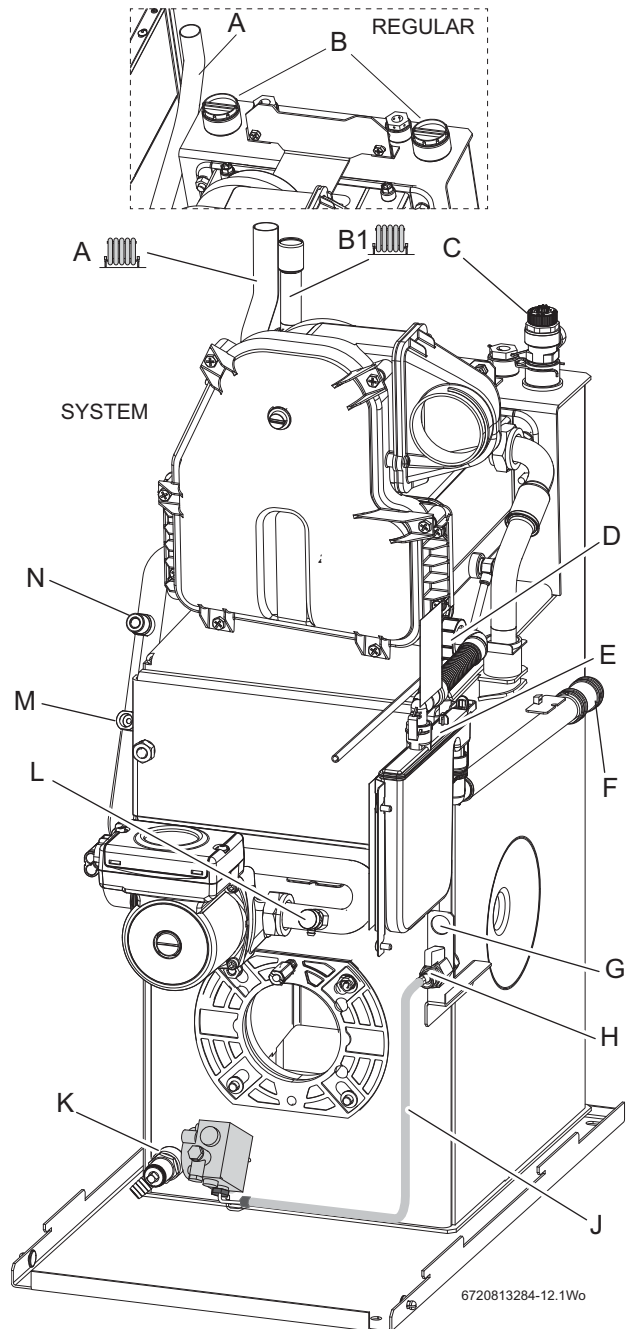

Fig. 46 Pipework connections
- ▶ Refer to figure 46 and ensure that the isolating valve (H) is closed and route the oil supply pipe along the right side of the boiler and connect to the isolating valve (H).
2. Connect the flexible oil pipe return hose [3] (not supplied) to the oil pump and return pipe fixing and tighten to secure (for routing see figure 46).